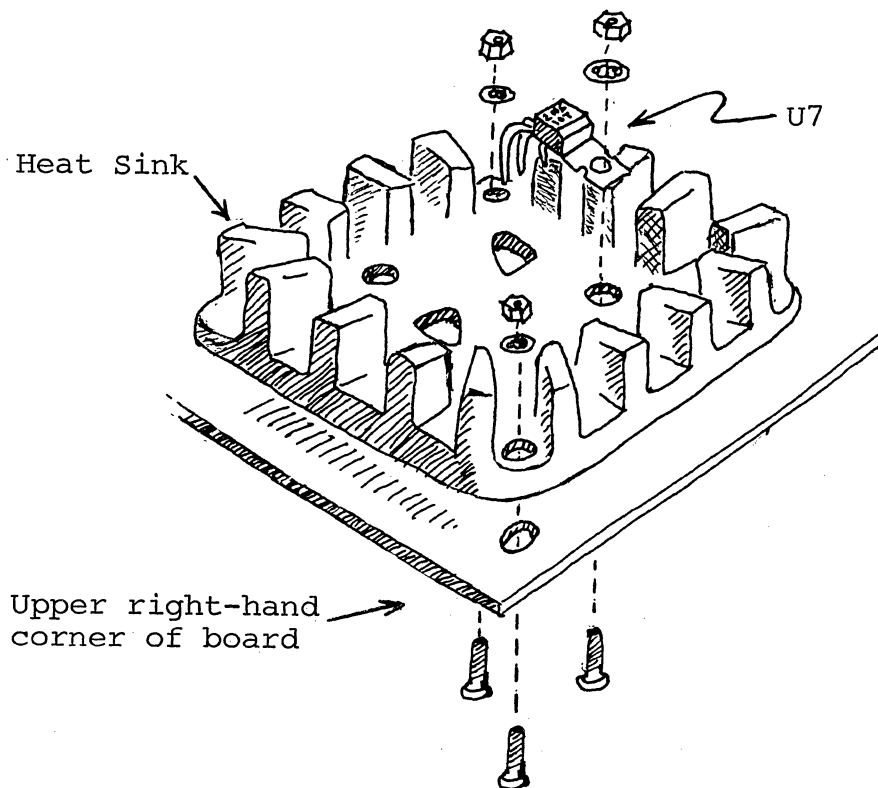

Figure 2-2. Heat sink and U7 installation.
- (✓) Step 1. Install heat sink. Position the large, black heat sink (flat side to board) over the square foil area in the upper right corner. Orient the sink so that the two triangles of mounting holes in the board are under the two triangular cutouts in the sink. Using two 6-32 screws, lockwashers and nuts, attach heat sink to board. Insert the screws from back (solder) side of board. (See Figure 2-2.)
- (✓) Step 2. Install U7 (7805UC or LM340T-5.0). Position U7 over left-hand cutout in heat sink and observe how the leads must be bent to fit the mounting holes. Note that the center lead (3) must be bent downwards at a point approximately 0.2 inches further from the body than the other two leads. Bend the leads so that no contact is made with the heat sink when U7 is flat against the sink and its mounting hole is aligned with the hole in the sink. Fasten U7 to sink using a 6-32 screw, lockwasher and nut. Insert screw from back (solder) side of board. Solder and trim leads. (Refer to Figure 2-2.)